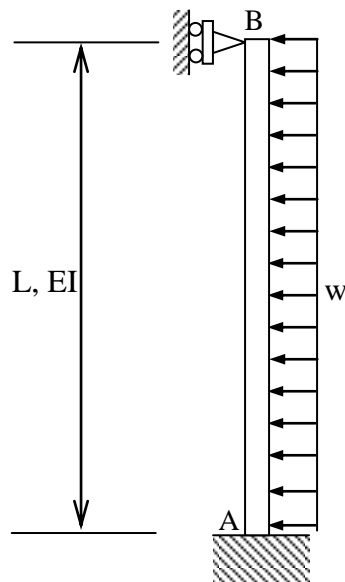

Figure 2.0 (a)
2. (a) Figure 2.0 (a) shows a propped cantilevered column subjected to a uniformly distributed load w . Supports A and B are of fixed and roller types, respectively. Derive the expression for reaction at support B by using method of least work.
- (b) Figure 2.0 (b) shows the design proposal for L-frame ABC. In this design proposal, support A is fixed and support C is of pin type. The load carried by the L-frame is a uniformly distributed load of 15kN/m acting on member BC and a point load of 30kN acting at joint B. Moment inertia of sections used for member AB and BC are I and $1.5I$, respectively. The reaction forces for this frame have been calculated and the values are as shown in Table 2.0. Immediately after construction, it has been found out that horizontal restraint of support C does not function. As a structural engineer, you have been asked to carry out analysis to investigate the effect of such change in support condition on the reaction forces. Calculate the percentage change in the magnitude of support reactions at A as a results of the failure of support C to provide horizontal restraint.